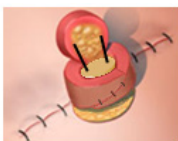

Figure 5
- To help maintain projection, place a suture through the top of the cylinder and secure firmly to the flap cover to suspend the cylinder in the silo, as shown in Figure 5.